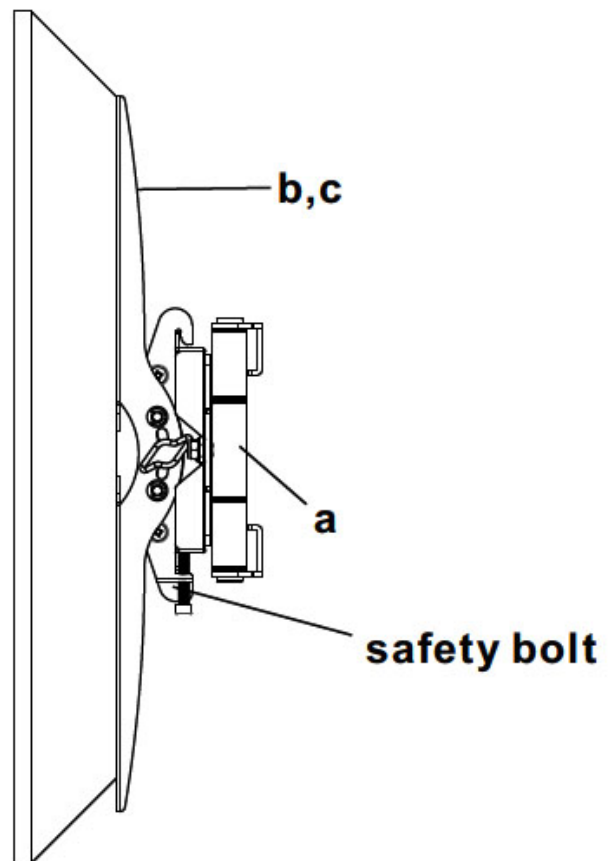

Figure 7
2. Use a screw driver to tighten the **safety bolt** on each monitor bracket (b, c) to secure the TV to the wall plate (a). See Figure 7.